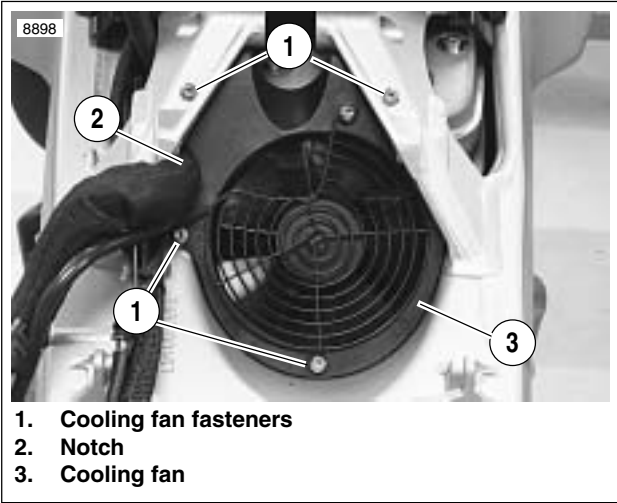

Figure 4-82. Cooling Fan
4. See Figure 4-82. Remove cooling fan fasteners (1).